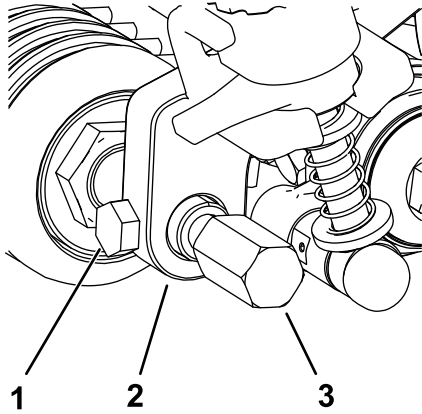

Figure 24
- Insert and center the front roller shaft between the height-of-cut brackets and secure it with the 2 mounting screws removed from the old height-of-cut brackets (Figure 24).
- Attach the groomer guards to either side of the front roller shaft (Figure 24).